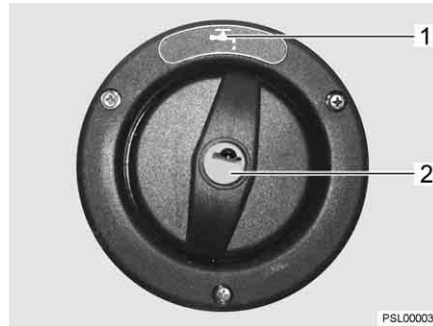

Fig. 52 Cap for the drinking water filler neck
▷ The drinking water filler neck is indicated by the symbol "☞" (Fig. 52,1).
*Opening:* ■ Insert the key in the locking cylinder (Fig. 52,2) and turn it in an anticlockwise direction.